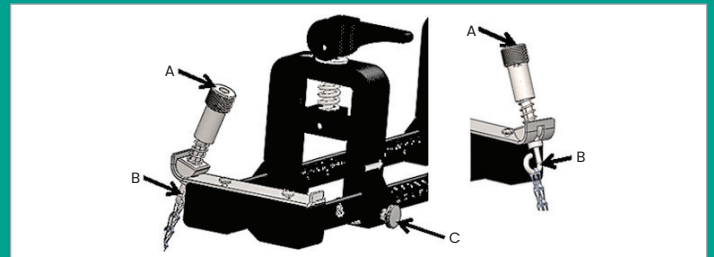
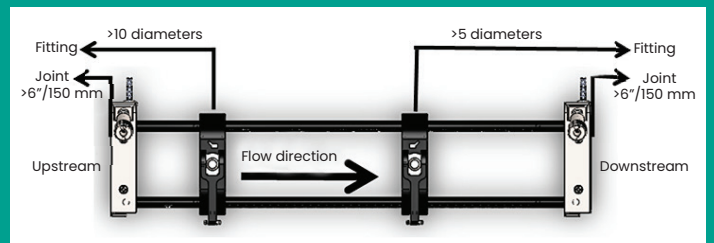

Figure 8: Bracket preliminary setup
Figure 9: Selecting the pipe location
- Before mounting the clamp-on fixture, refer to *Figure 8* on page 6 below and proceed as follows:
- Ensure that the chain mechanism screws (A) that are attached to the end piece flats are fully loosened.
- Ensure that the last link on the chain is secured within the chain mechanism screw slot (B) on both sides of the end piece.
- Ensure that the thumb screw (C) is tightened on the movable clamp so that no motion is allowed during the mounting process.
- Select a clamp-on fixture mounting location on the pipeline which meets the following requirements (see *Figure 9* below):